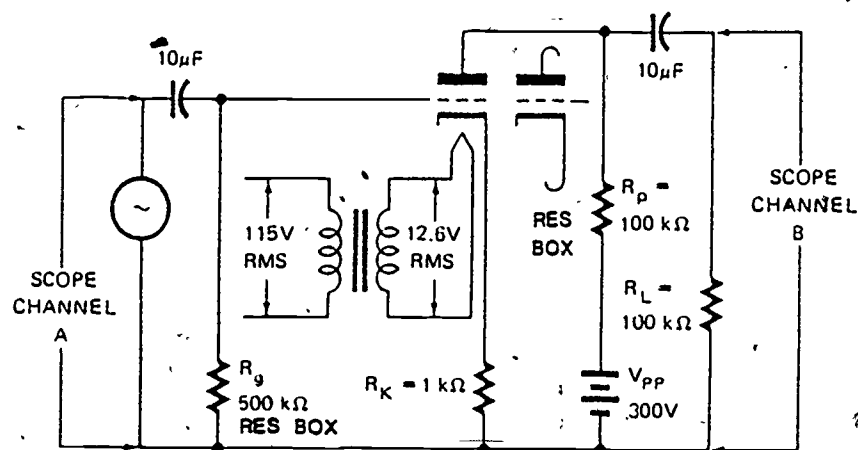

Figure 20. Schematic for Triode Amplifier.
2. Connect 1/2 or 12AX7, as shown in Figure 20.